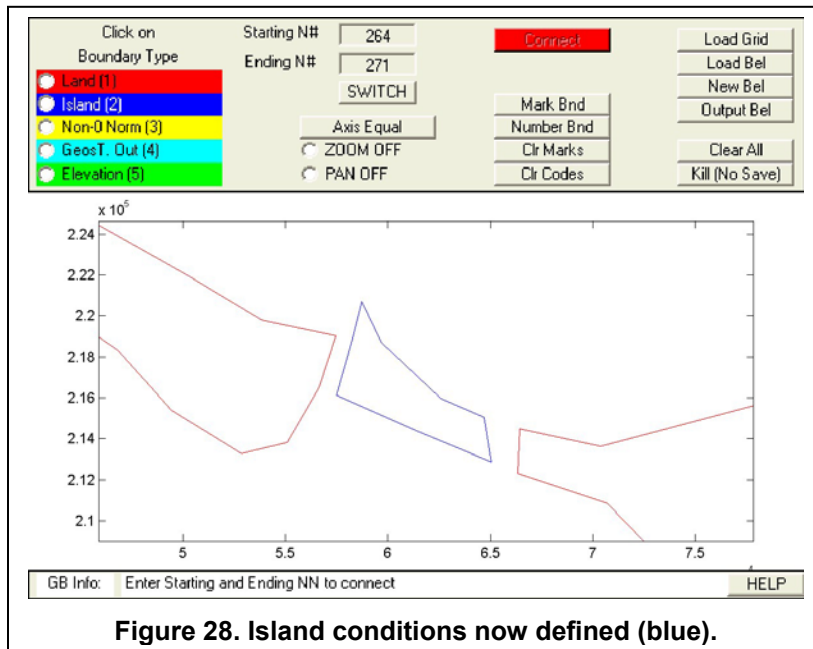

Figure 28. Island conditions now defined (blue).
To specify the island boundaries, enter 264 and 271 in the “**Starting N#**” and “**Ending N#**”, click on “**Island (2)**” and then click on “**Connect**”. To complete the island, click on “**SWITCH**” and click on “**Connect**” again. You should see the following (Fig. 28) result: